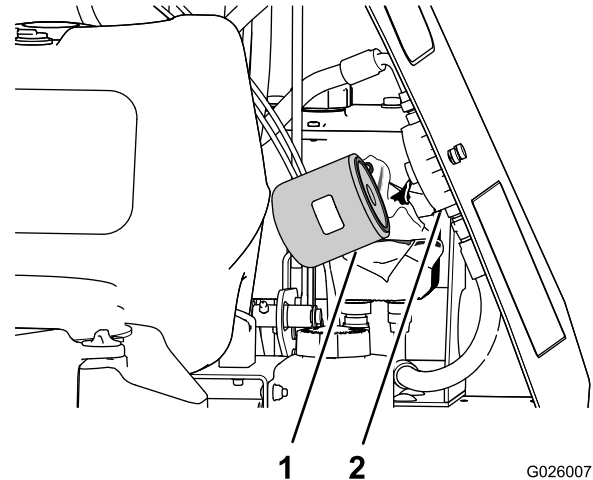

**Figure 54**
- At the front of the auxiliary-hydraulic pump, remove the inlet hose from the hydraulic fitting in the pump, place the end of the hose in a drain container, and allow oil to drain (Figure 54).